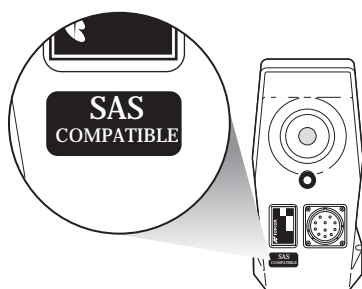

Figure 9-4. SAS Compatibility Label
5. Non-SAS compatible tracker attached to cable. Verify tracker has SAS compatible decal near S/N label (Figure 9-4).